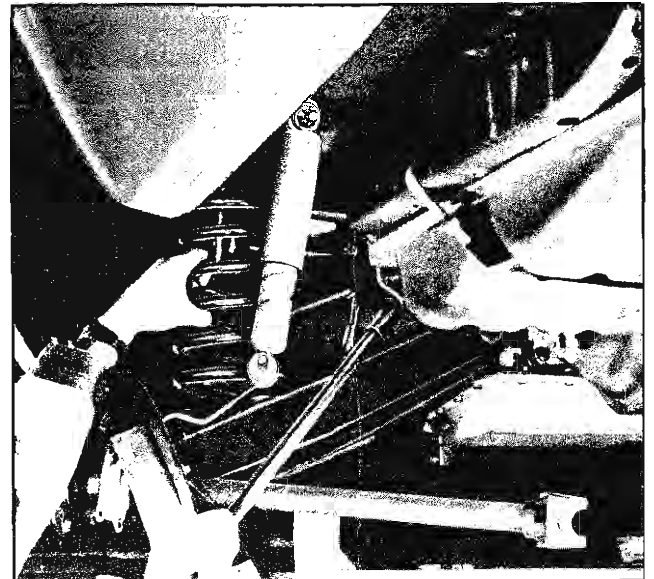

Fig. 3-32 Lowering Control Arm for Spring Removal
12. Remove coil spring by lowering control arm as shown in Fig. 3-32.